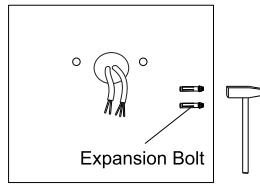

Figure 22
- Step 2: Knock the expansion bolts into the wall.(Figure 22)